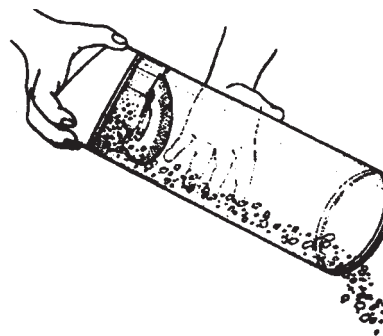

Figure 12d
10. Turn the Collection Bin upside down over a trash can. Make sure you empty all dirt and debris from above and below the Dirt Arrestor. To ensure that all the dirt spills out, tap the side of the Collection Bin gently against the edge of the trash can. (See Figure 12d.)